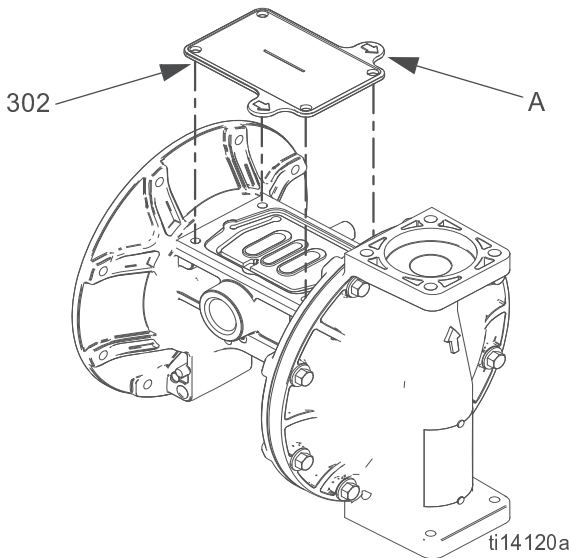

FIG. 9. Fluid cover tool
- c. Grease the shaft u-cups (106) and the length and ends of the diaphragm shaft (104). Slide the shaft into the housing.
- f. Reattach the first fluid cover (3). See **Torque Instructions**, page 18.
- a. See FIG. 9. Place the supplied tool (302) where the air valve gasket (108) normally goes. Arrows (A) must face toward the fluid cover that is already attached.